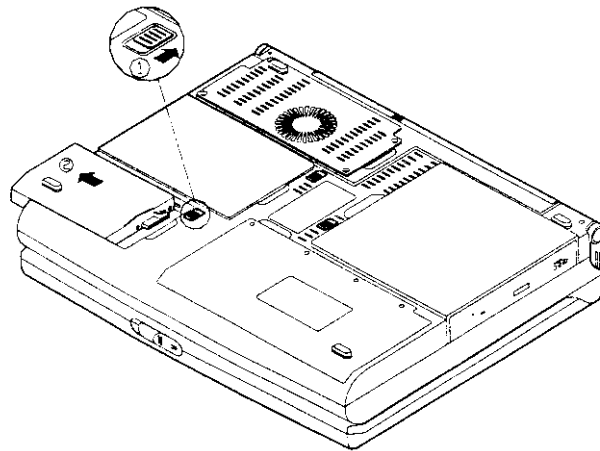

Figure 2-8
4. Press the latch in the direction indicated and slide the hard disk drive out of the Notebook (Figure 2-8).